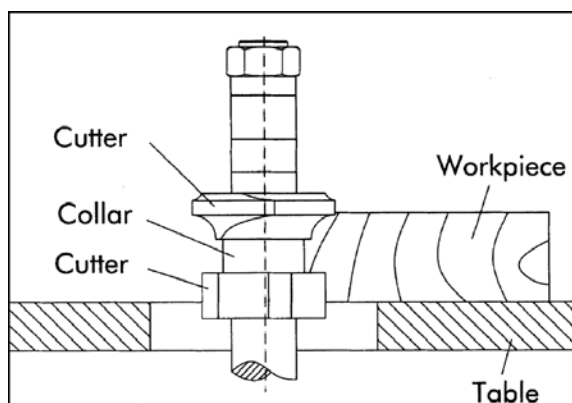

Figure 33
3. Using the collar between two cutters has the advantages and disadvantages of the first two procedures, and is frequently used where both edges of the work are to be molded. See Figure 33.